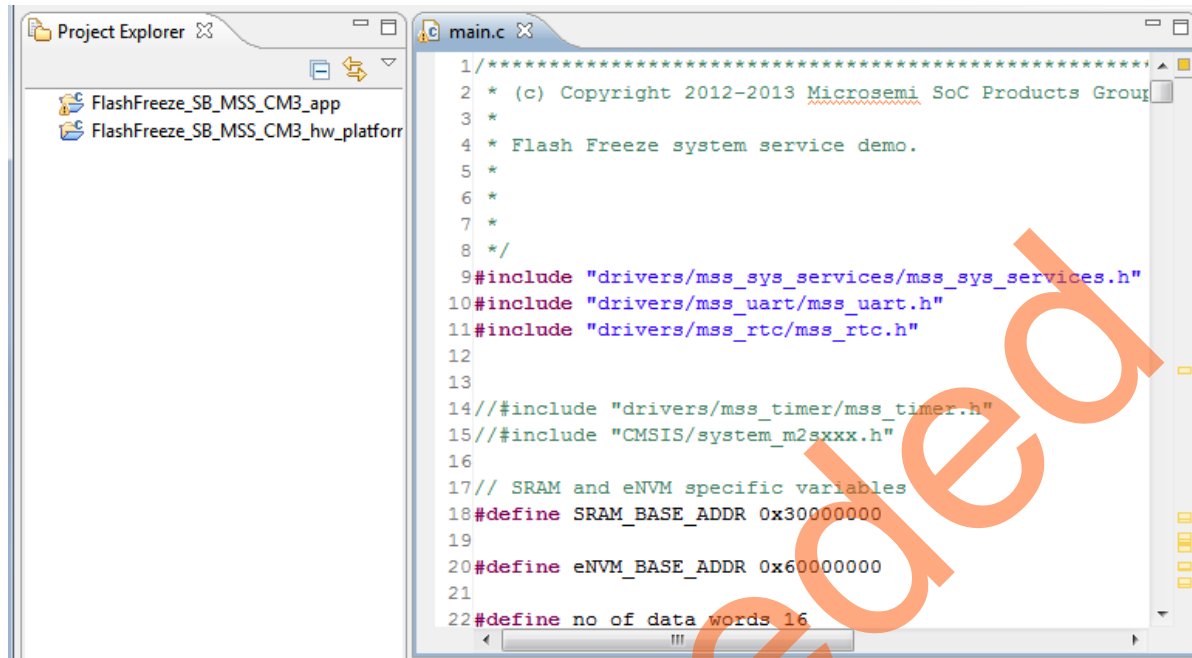

Figure 12 • Provided main.c Code
8. Verify the main code by double-clicking the **main.c** file as shown in Figure 12.